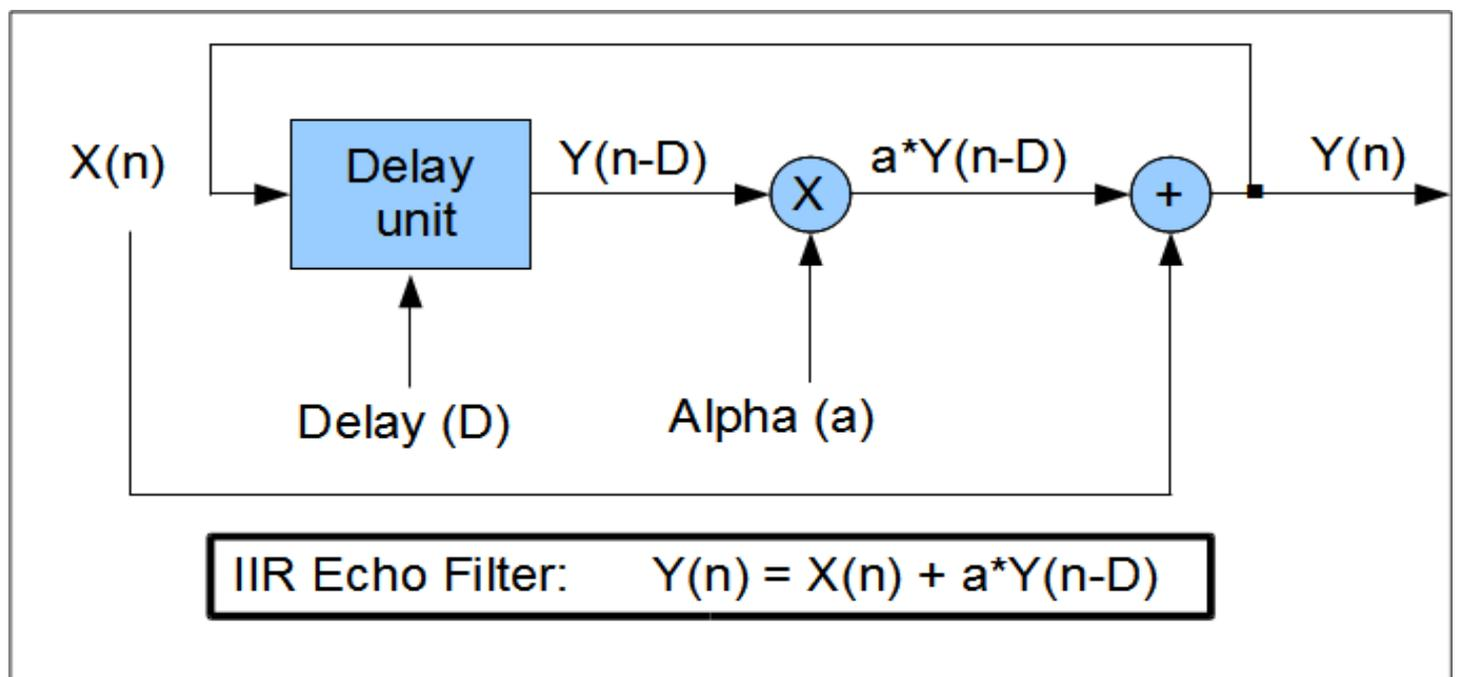

Figure 1: IIR Echo Filter block diagram
Figure 1 shows a block diagram of an IIR Echo Filter consisting of a memory (Delay Unit), a multiplier, adder and feedback path.
2. Redraw Figure 1 as follows. Delete the feedback connection from  $Y(n)$  to the delay unit. Now connect  $X(n)$  to the input of the delay unit as well as the adder. Replace the  $Y(n-D)$  text with  $X(n-D)$ . Write down the difference equation. What type of filter is this?
3. Now redraw Figure 1 as follows: Place a 2-position switch at the input of the delay unit so the centre connection goes to the delay unit. Now connect the other two lines, one of which is a connection to  $Y(n)$ , and the other joins to  $X(n)$  as well as  $X(n)$ 's connection to the adder. Place the text  $Z(n)$  at the input to the delay unit, and replace the  $Y(n-D)$  text with  $Z(n-D)$ . Write down the difference equation. You will use this setup in Part 3.